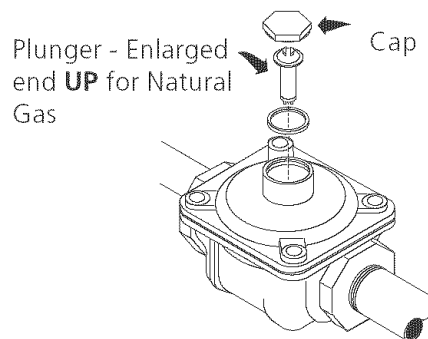

Figure 7
2. Convert the Pressure Regulator from LP Gas to NATURAL Gas (see figure 7)